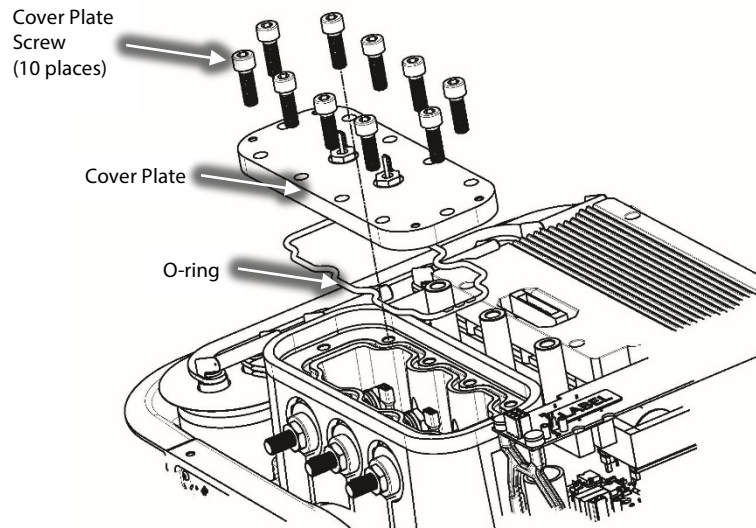

Figure 5 – Cover Plate Removal
13. Remove the 10 M8x25 fasteners that secure the Cover Plate to the Main Housing. Refer to Figure 5 (Cover Plate Removal).